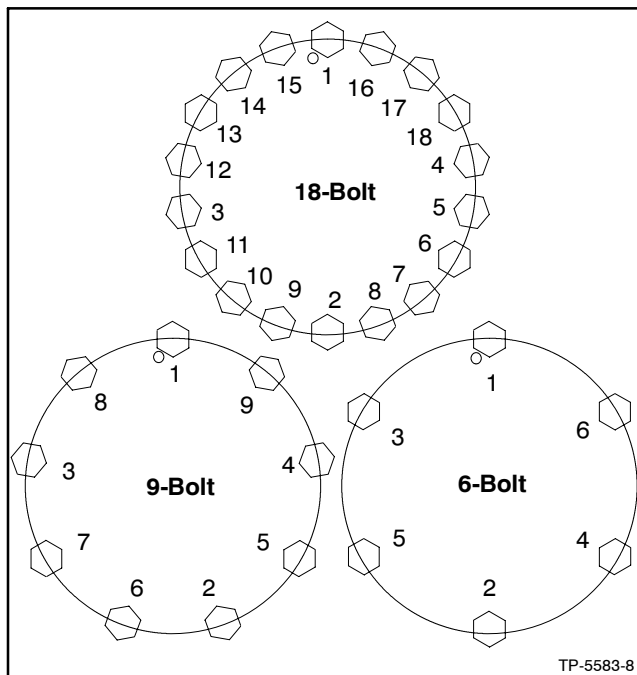

Figure 3-5 Drive Disc Bolt Tightening Sequence
32. Torque the drive disc bolts using the values given in Section 1, Specifications, and in the sequence shown in Figure 3-5. Recheck the bolt torque.